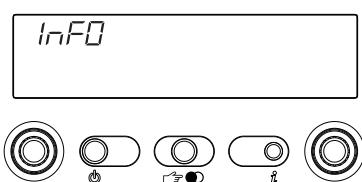

Fig. 62
Press , the display turns off and just the word **Info** appears (fig. 62). Press the button to view operating information. Press the button again to move on to the next piece of information. If the button is not pressed, the system automatically exits the function.
- Info 0** shows the word **Info** (fig. 62)